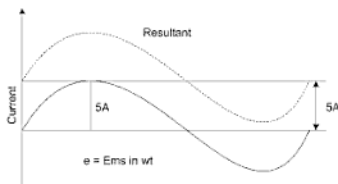

Fig. 1.72
- (i) The two current components and resultant current wave have been shown in Fig. 1.72.
Referring to the phasor diagram in Fig. 1.72 we have,